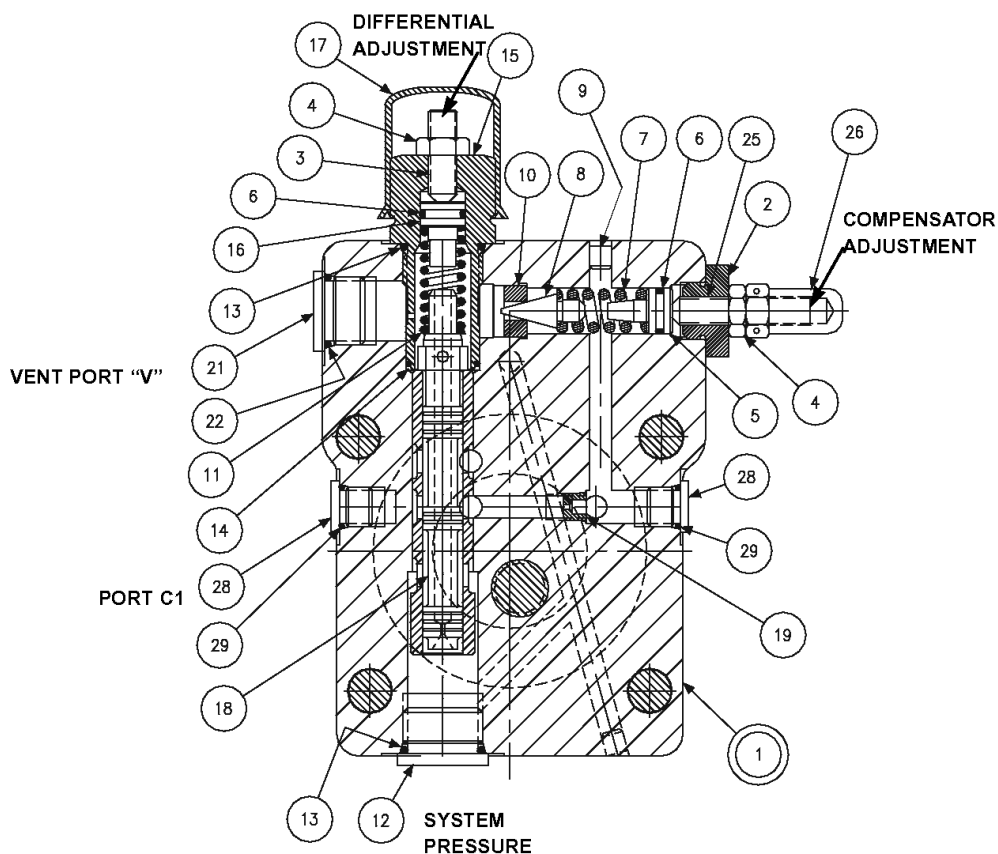

FIGURE 6
1. **See Figure 6.** Back off maximum volume screw or handwheel to full displacement. Remove maximum volume screw or handwheel assembly.
3. Remove plug (15) and attached parts. Remove spring (11) and spool (18).
4. Remove adjusting plug (2) and attached parts. Remove seal piston (5). Note: a 10-24 screw may be used to assist in pulling the piston. Remove spring (7) and cone (8).
5. Do not remove sleeve in body (1). Sleeve is pressed into cap and finished to size. If sleeve or cap is worn, replace the cap-sleeve assembly (1).
6. Examine seat (10) for wear. Do not remove unless damaged.
PARTS LIST FOR FIGURE 6